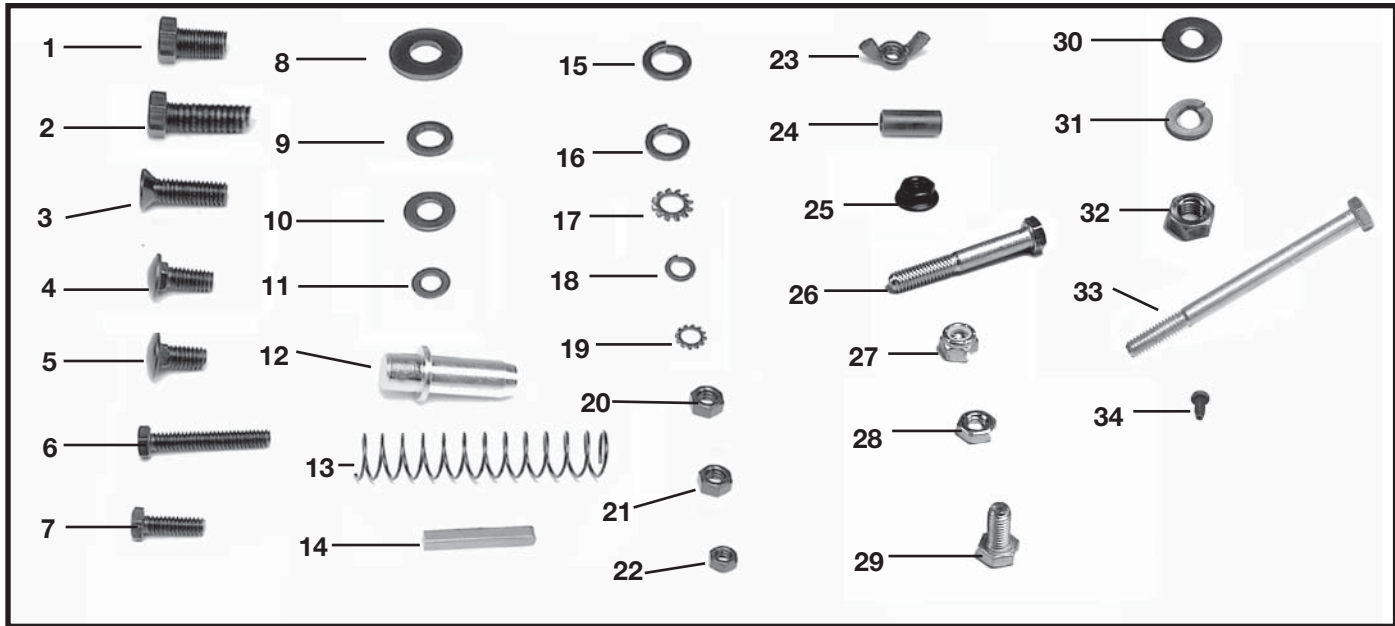
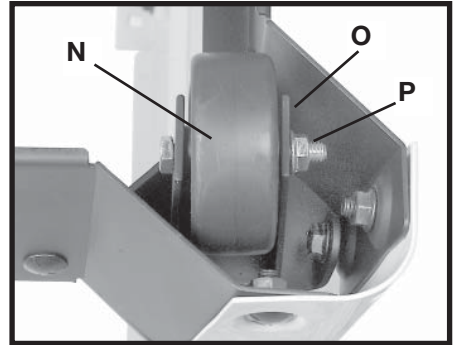

Fig. 4
Fig. 19
12. Place a wheel (N) Fig. 19 in an open end bracket (O) Fig. 19. Insert a $\frac{5}{16}$ -18 x $2\frac{1}{4}$ " Hex Head Cap Screw (No. 26 in Fig. 4) through the bracket and the wheel. Fasten it together as shown in Fig. 19 with a $\frac{5}{16}$ -18 Nylok Nut (P).